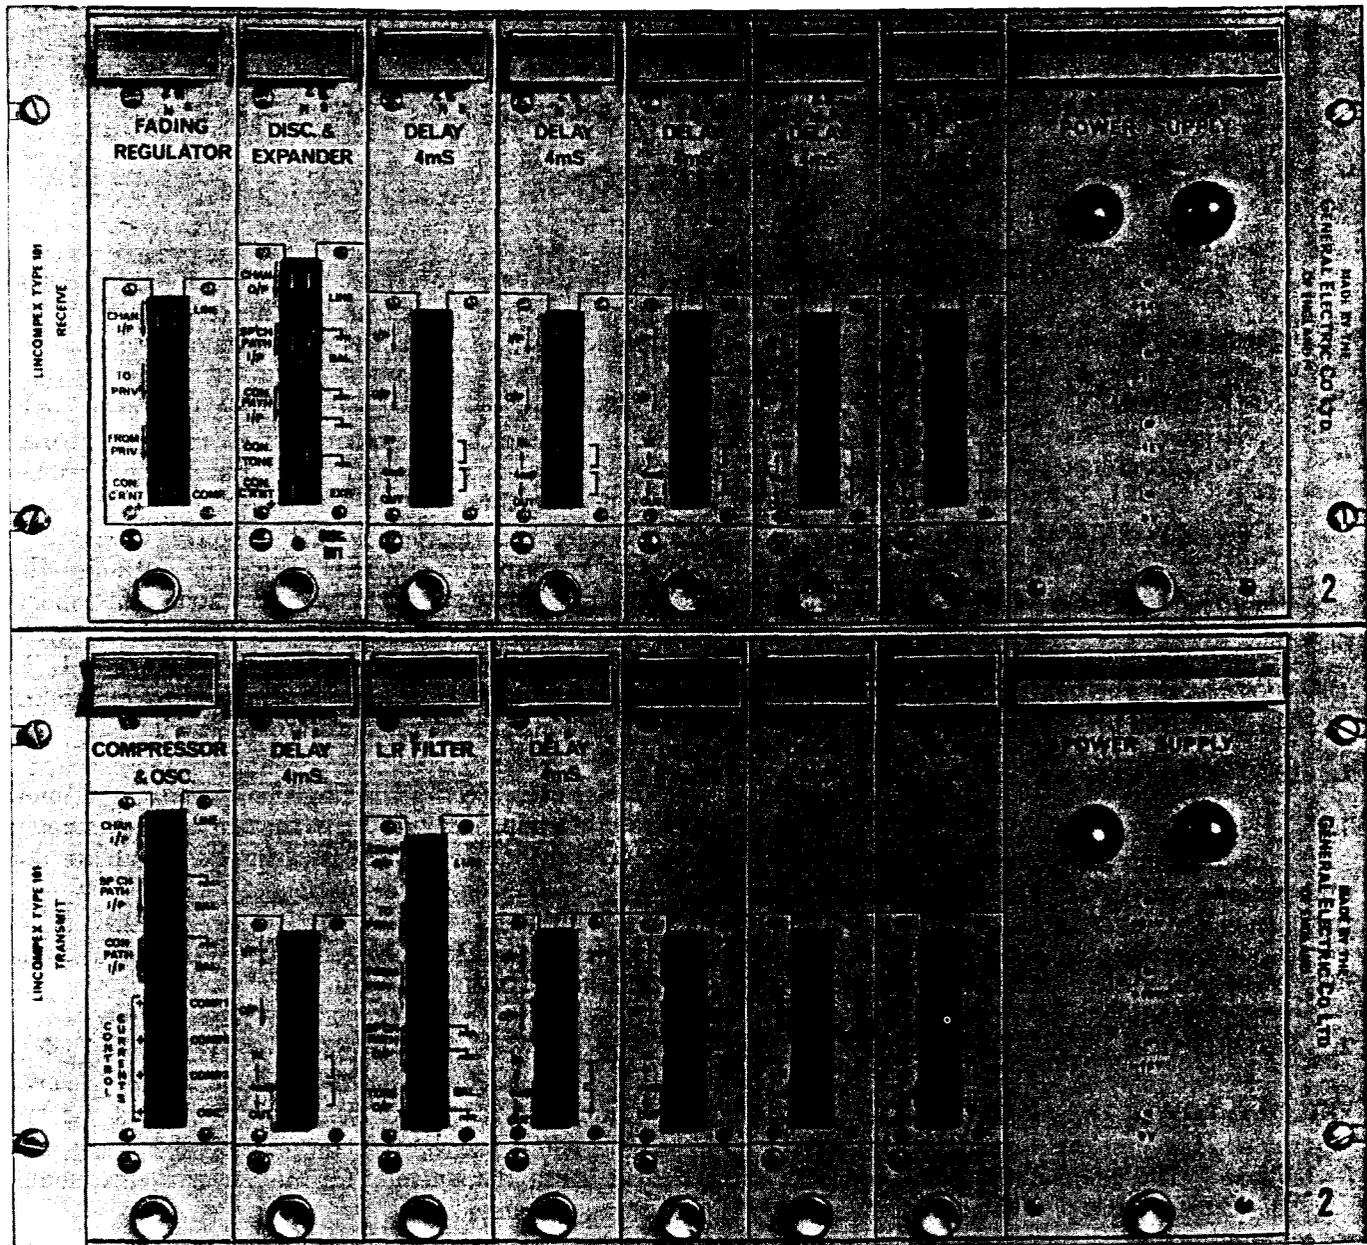

Fig. 1—Lincompex 101 Transmit and Receive Unit
1.01 This section provides information for the installation of the Lincompex 100/101 transmit and receive unit (Fig. 1). For a description of the transmit unit, see Section 403-311-101; for the receive unit, see Section 403-311-102. Both sections may be helpful in the installation of the system.